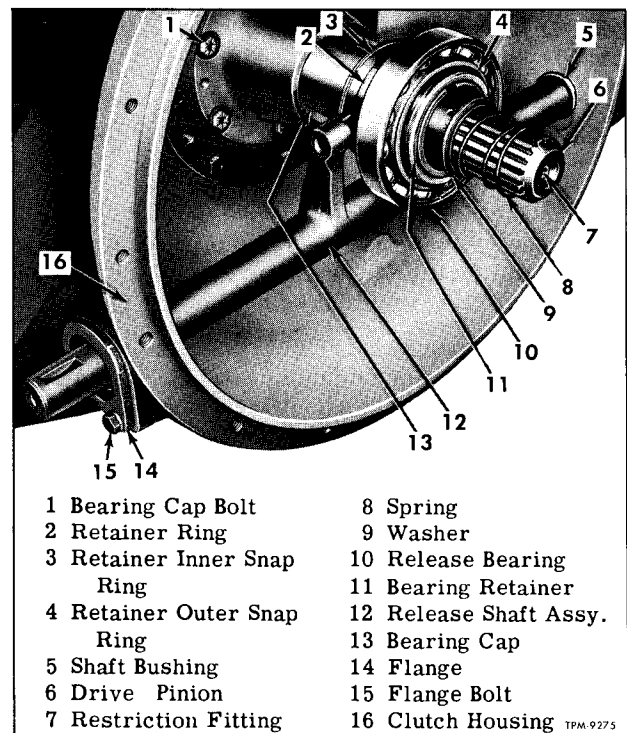

Figure 3—Release Mechanism in Clutch Housing
2. Remove spring and washer (8 and 9, fig. 3) from transmission drive pinion.
sembly from transmission bearing cap (13, fig. 3).
5. From inside clutch housing, pass lever end of clutch release shaft out through shaft flange opening, then move shaft endwise and into bushing (5, fig. 3). Install oil seal (7, fig. 1) in shaft flange and place seal in groove in flange. Cover keyway in shaft with tape, then assemble flange over end of release shaft and into clutch housing. Install bolt (15, fig. 3) and lock washer to secure flange to housing.
6. With clutch release bearing, retainer ring, and inner and outer snap rings assembled to retainer (11, fig. 3) start retainer and release bearing assembly on transmission bearing cap (16, fig. 1). Turn bearing retainer so milled flats are aligned with levers which are integral with release